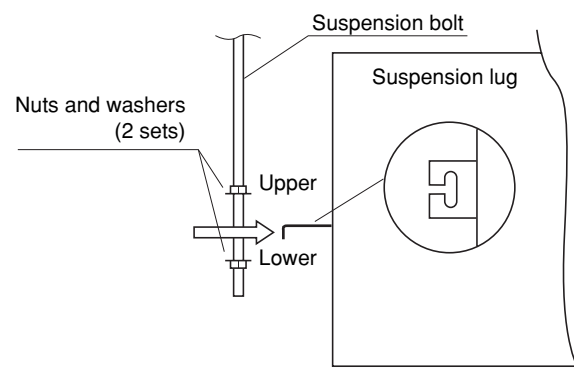

Fig. 3-60
- (3) Thread the 2 hexagonal nuts and washers (field supply) onto the 4 suspension bolts as shown in Figs. 3-60 and 3-61. Use 2 sets of nuts and washers (upper and lower), so that the unit will not fall off the suspension lugs.